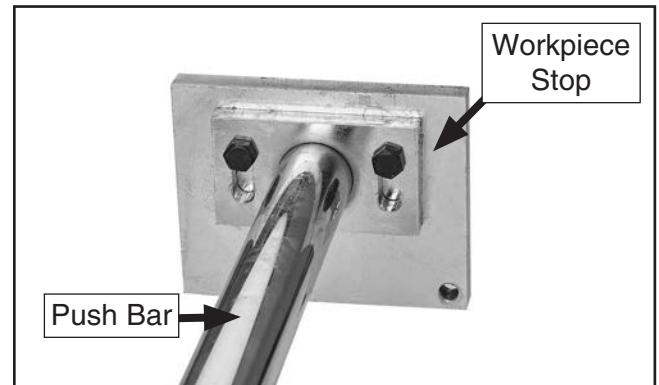

Figure 5. Workpiece stop and push bar.
4. Attach workpiece stop to end of push bar using (2) M6-1 x 16 hex bolts (see **Figure 5**).